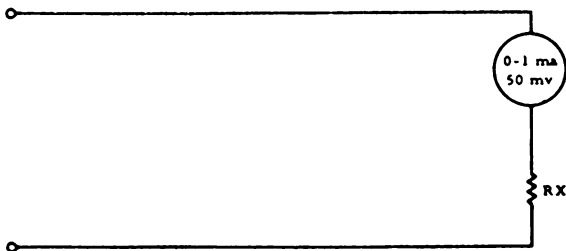

Figure 4-1. Computing the value of a multiplier.
**Extension of Voltmeter Range.** To extend the range of a voltmeter, we place a resistor in series with the meter movement, as shown in figure 4-1. Note that the series resistor is labeled  $R_x$ . This resistor is called a multiplier.